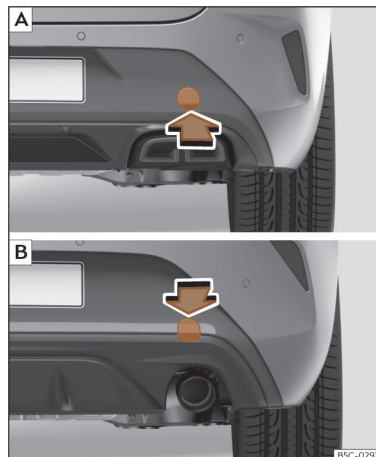

Fig. 217 Rear bumper on right: remove the lid. **A)** Leon Sportstourer; **B)** Leon.
The housing of the screw towing eye is on the right side of the rear bumper behind a lid >>> **Fig. 217**.
- Leon Sportstourer:** Press the lower side of the lid >>> **Fig. 217 [A]** to unclip it.
- Leon:** Press the upper side of the lid >>> **Fig. 217 [B]** to unclip it.
- Screw the towing eye in the housing by turning it to the maximum **anticlockwise** >>> **Fig. 217**, >>> **Fig. 217**. Use a suitable object that can completely and securely tighten the towing eye in its housing.